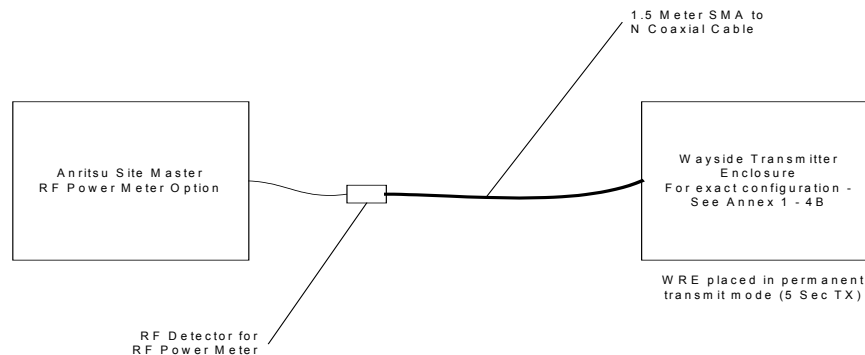

Figure 5.3 - RF Measurement of WRE
- RF measurement of system at 100 ft. This measurement will be performed using a RF Power Meter, 6 dB Horn antenna, and a 1.5 meter coaxial cable at a distance of 100 feet from the antenna (north & south). These measurements will be made with the WRE in continuous transmit mode. The measurements will be recorded in the RF Power Measurement at 100 Ft. column in the Test Record Form in Annex TR. This test is detailed in Figure 5.3 below.